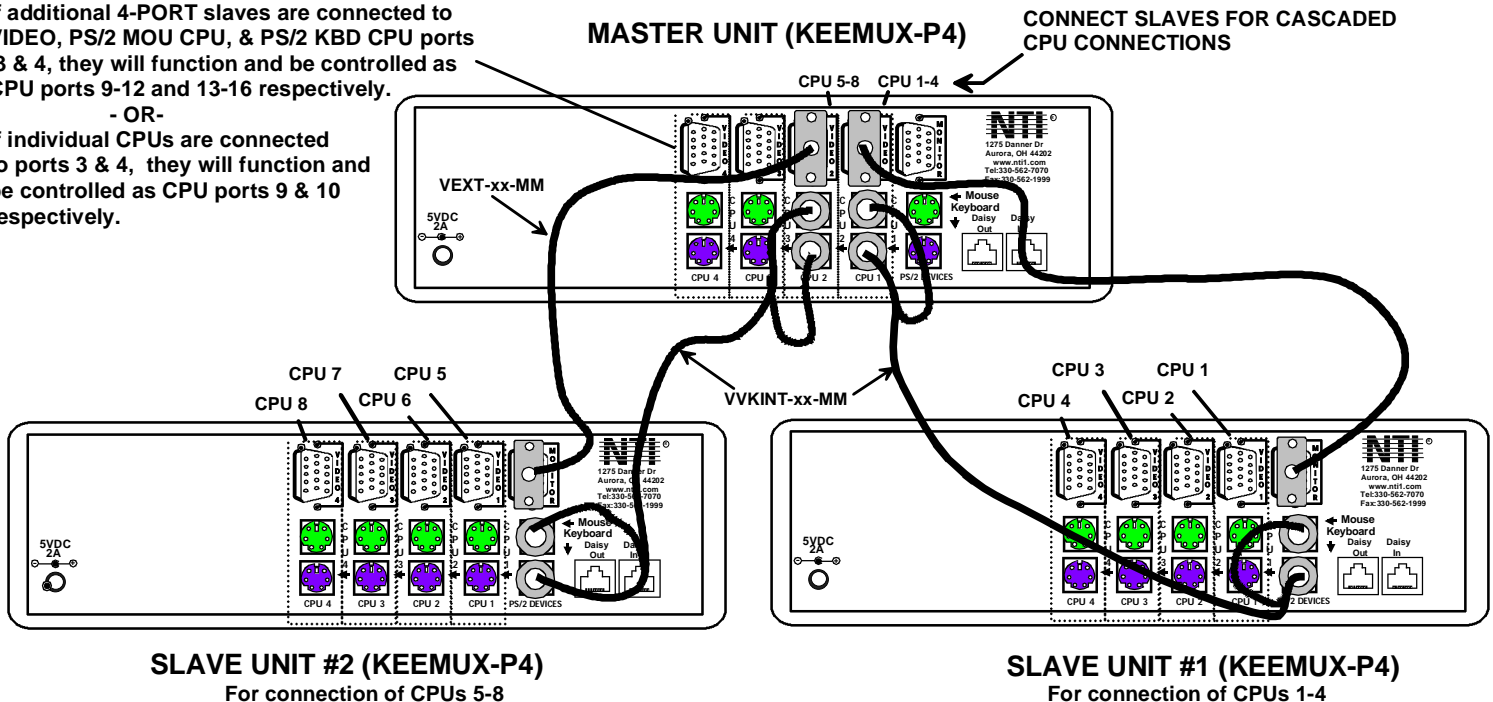

Figure 6- Cable connections for cascading
FYI: Port 1 of the master unit (with a 4-port slave unit connected to it) will function and be controlled as ports 1-4 (1-8 for an 8-port slave, 1-16 for a 16-port, etc.). Port 2 of the master unit (with a second 4-port slave unit connected) will function and be controlled as port numbers 5-8 (9-16 for an 8-port slave, 17-32 for a 16-port slave, etc.). See Fig. 6 on page 6.
- A connection to the CPUs from the keyboard would be achieved by typing the appropriate port number. (See Fig. 6 on page 6.)
- When cascading, if not all of the ports are used on each slave attached to your system, **THE PORT NUMBER(S) ASSOCIATED WITH THE UNUSED PORT(S) WILL NOT BE ACCESSIBLE** when trying to control the switches connected to the system. (I.e. if ports 7 and 8 are not used on the first slave and an attempt is made to connect to ports 7 or 8 while in Command Mode, the KEEMUX will ignore the attempt.)